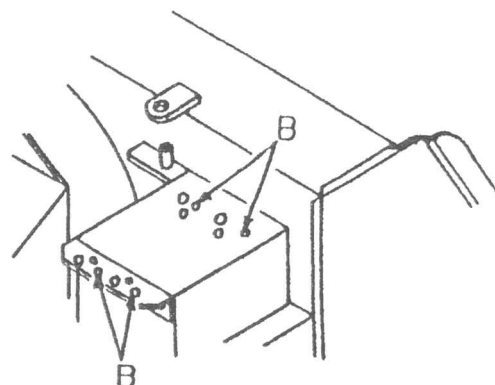

FIGURE 9
- d) Honda Engine Installation 11 or 13HP: Install the engine on the stand (fig. 9). Using the holes identified as item « B » with four bolts 3/8 X 1 1/2", two flatwashers on top of the slot and secure with nuts.